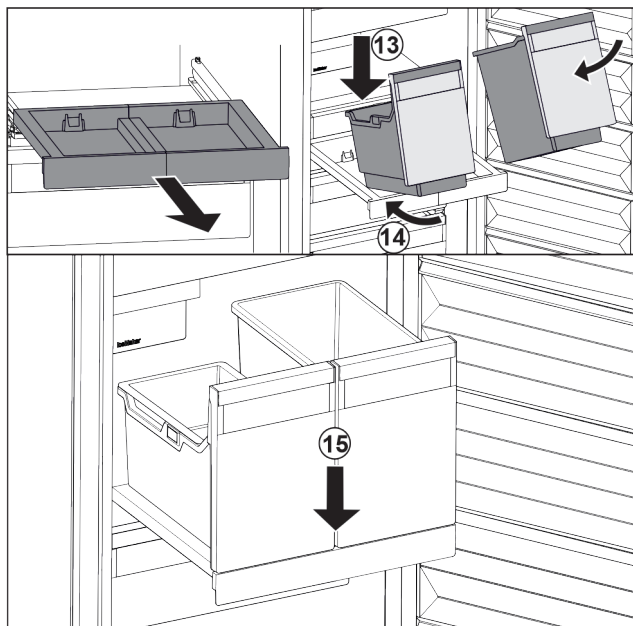

Fig. 35
- Place the container at an angle on the pull-out board. Fig. 35 (13)
- Slide in the container at an angle to the back. Fig. 35 (14)
- Place container at the front. Fig. 35 (15)